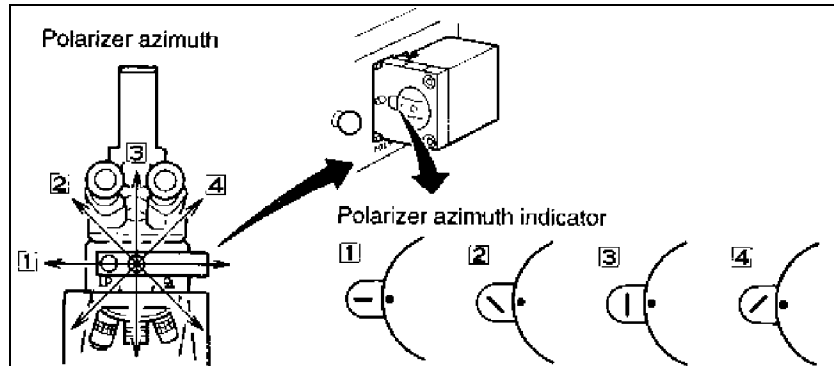

Figure 1-24
- To set polarizer azimuth, press the polarizer rotation key on the operation box while looking at the azimuth indicator. (See Figure 1-24 on the previous page.)